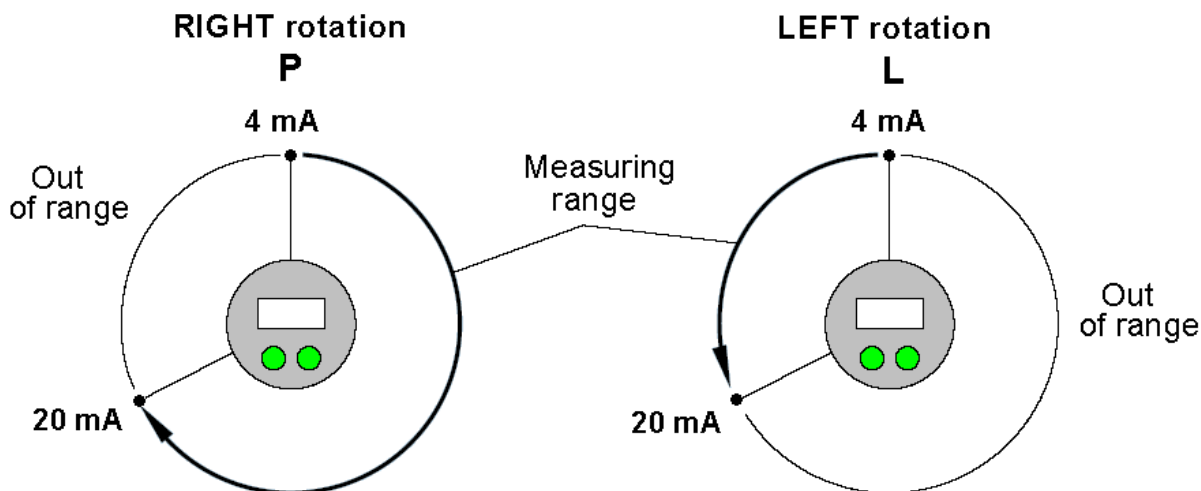

Fig. 7.3. Sense of EPO-03 ecoder rotation (view from the side of LCD display)
- Setting of the output signal characteristics type char - one can select normal mode 4-20 (range beginning is at the point of 4 mA, range end at the point of 20 mA), or inverse 20-4 (range beginning is at the point of 20 mA, range end at the point of 4 mA). Change in this parameter changes the places of 4 and 20 mA point position on the characteristics of conversion (see fig. 7.3).